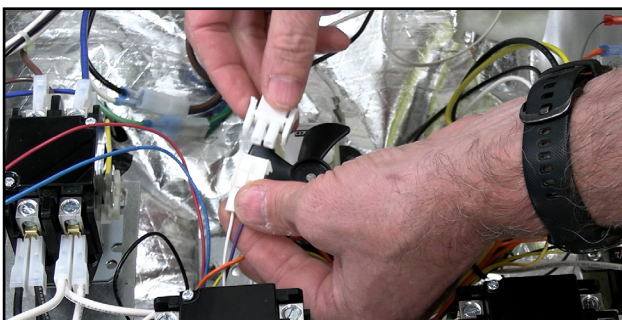

Fig.111
23. Connect the purple and white harness to the purple and white connection coming from the signal wire harness. (Fig.111)